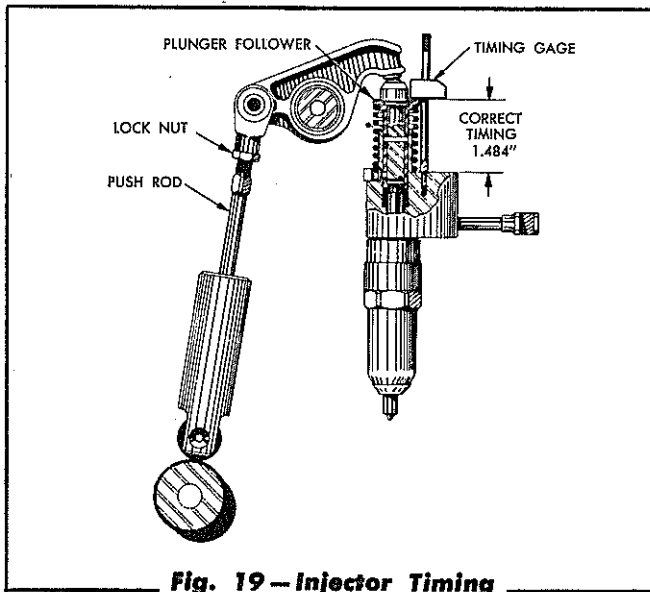

Fig. 19 — Injector Timing
4. Loosen the injector push rod lock nut and turn the push rod into the push rod clevis to raise the follower or out of the push rod clevis to lower the follower until proper timing is obtained (refer to Fig. 19). When the injector is properly timed, the bottom (flat part) of the gage head will just pass over the top of the injector follower. The timing gage must be held perpendicular to the top surface of the injector body while performing this adjustment.